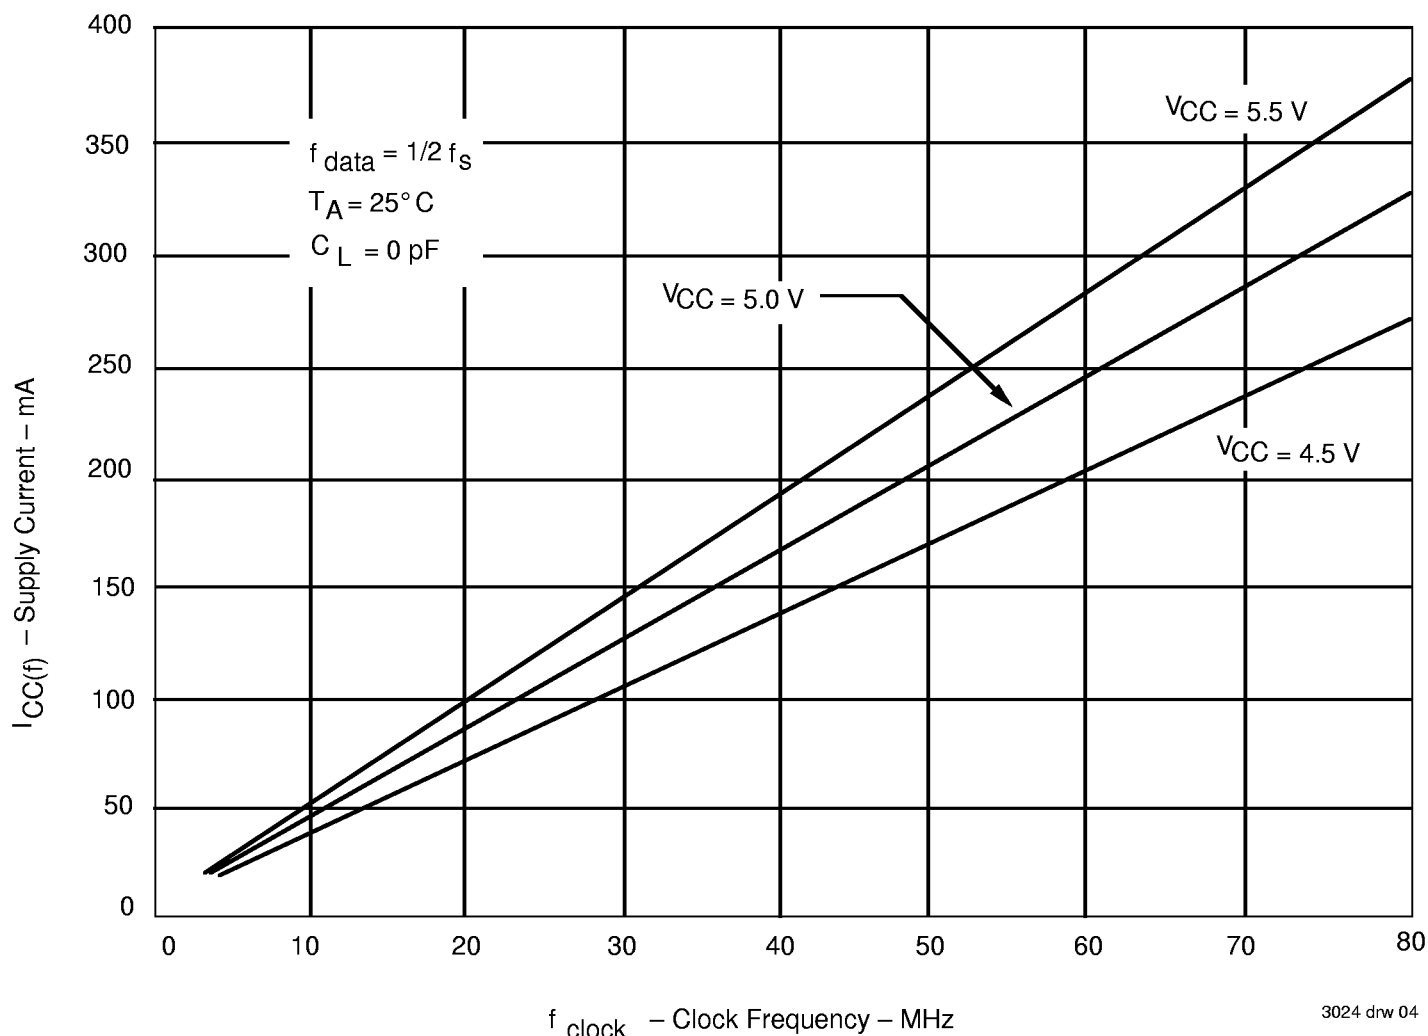

Figure 1. Typical Characteristics: Supply Current vs Clock Frequency
With $I_{CC}(f)$ taken from Figure 1, the maximum power dissipation (PT) of the IDT723611 may be calculated by: